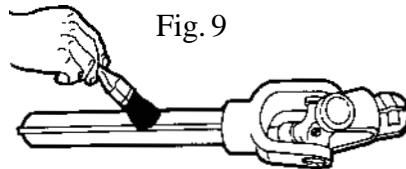

Fig. 9
- 9 Apply a coating of grease to the telescoping parts of the driveline Fig. 9.